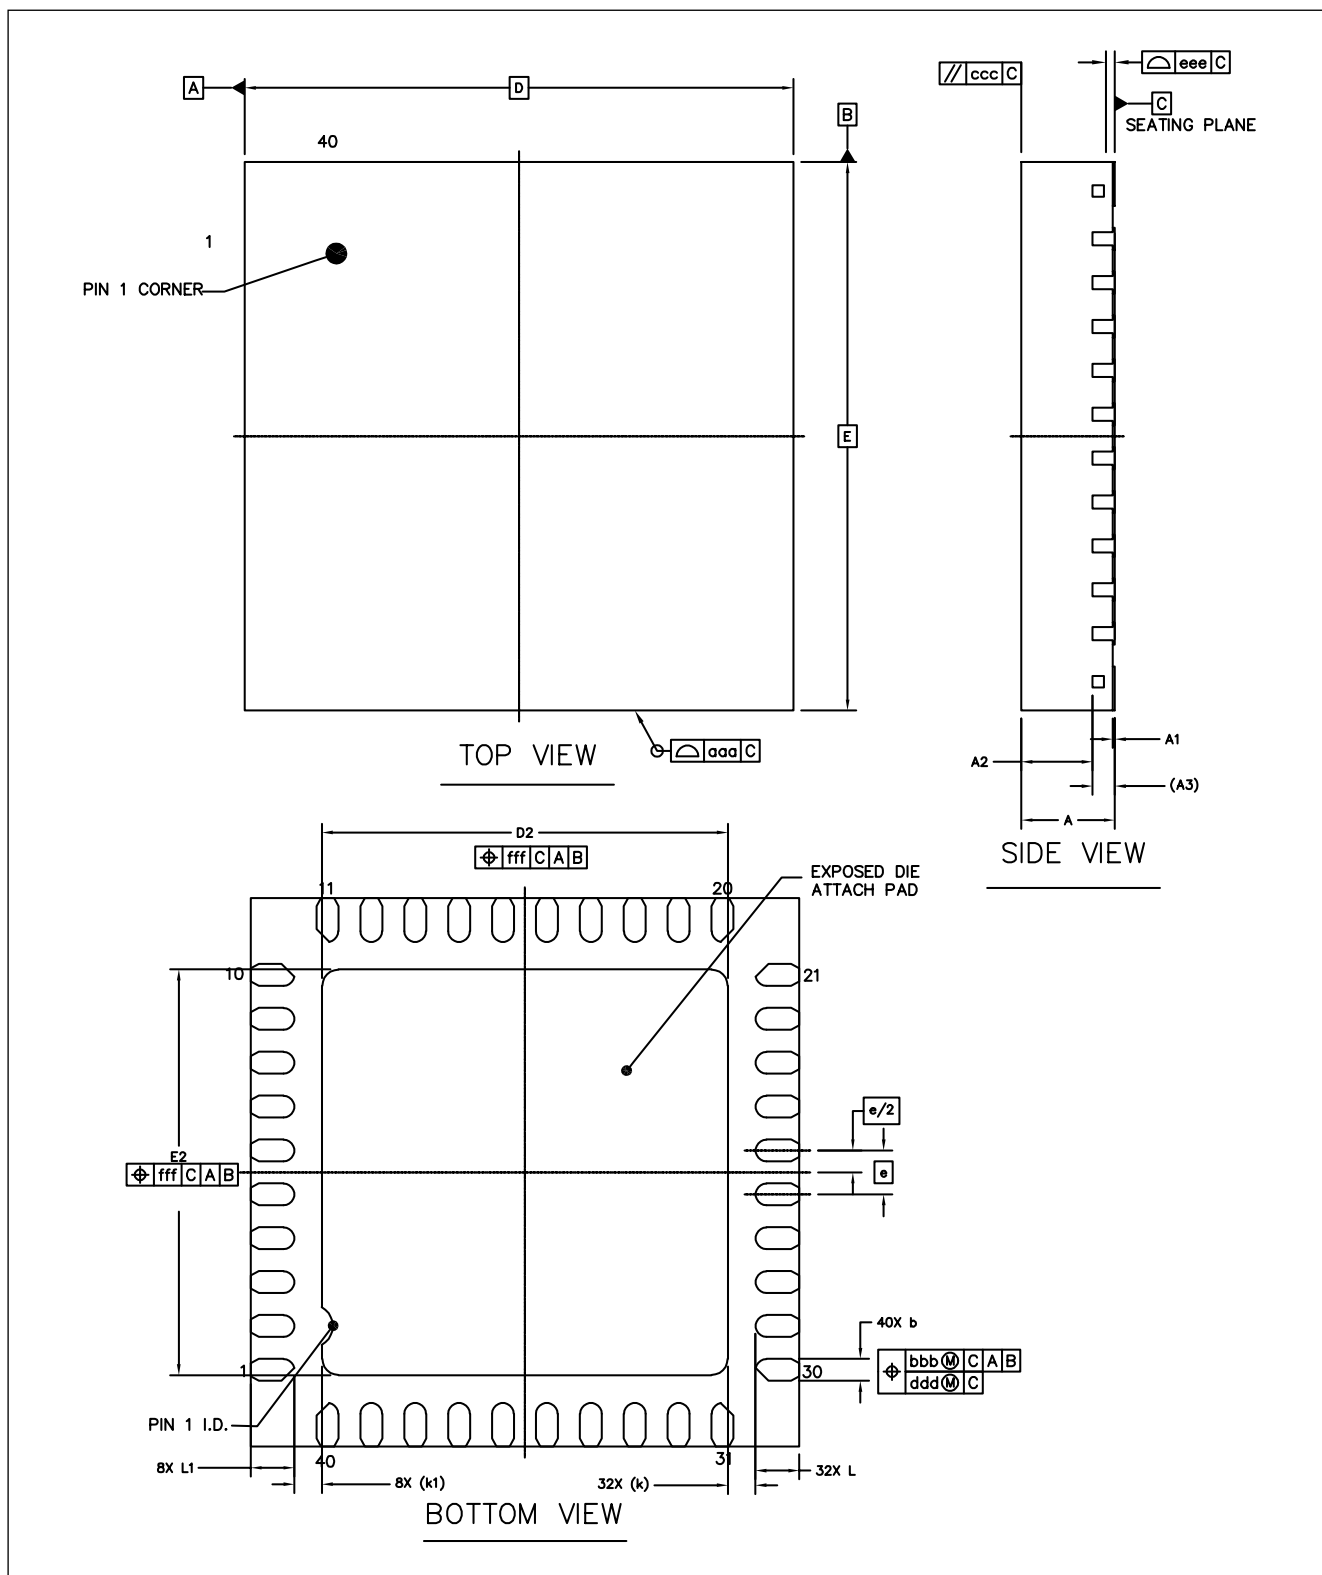

Figure 17 PG-QFN-40 Mechanical Drawing
**Table 34** provides the mechanical dimensions of the PG-QFN-40 package. **Figure 17** shows the top, side, and bottom dimension drawings of the package.